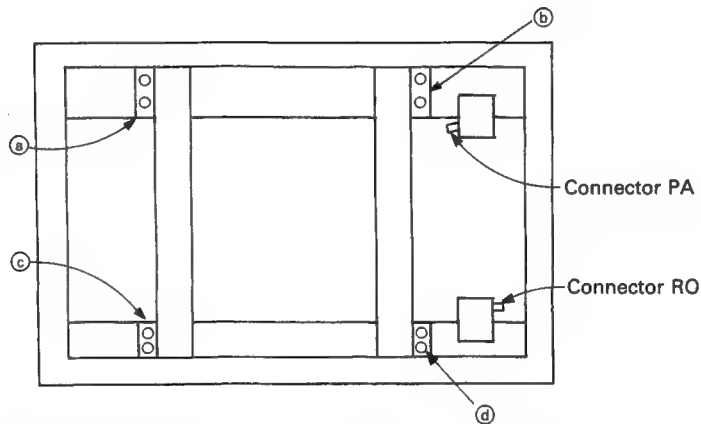
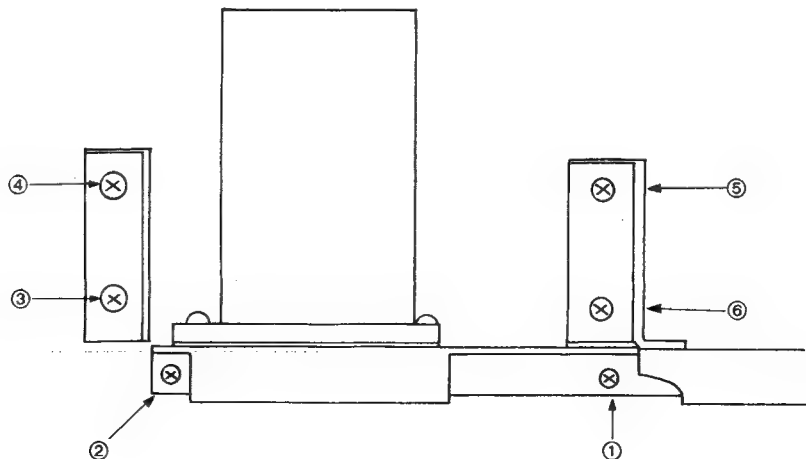

Figure 33 Rotational Mechanism Unit with Rear Cover Removed
Figure 34 Rear View of Rotational Mechanism Unit (at Right Side)
- (4) Disconnect the relay connector which is used to connect the plunger leads coming from the rotational mechanism units (right and left) to the main PWB, and then the connectors RE and FF which are used to connect the motor leads to the main PWB. And remove the leads from the lead holders and leave them near the right and/or rotational mechanism unit.
- (5) Remove eight screws, two each at the places ①, ②, ③ and ④, shown in Fig. 33.
- (6) Remove the screws which have temporarily fixed the writing sheet board, and detach the writing sheet board from the main body. At the time, be careful not to allow the leads of the rotational mechanism unit to be entwined between the main body and writing sheet board.
- (7) Remove the screws ①, ②, ③, ④, ⑤ and ⑥ shown in Fig. 34 from the rotational mechanism unit (at right side), and detach the rotational mechanism unit from the writing sheet board. The same procedures apply to removal of the left rotational mechanism unit.
- (1) Referring to the assembly drawing of the rotational mechanism unit shown in Fig. 34, align the screw holes of the rotational mechanism unit with those of the writing sheet board. Then temporarily fix the screw ①; this screw is used as a datum screw to decide the accuracy of the rotational mechanism unit.
- (2) Also referring to Fig. 34, temporarily fix the screw ② which is used to decide the accuracy in the vertical direction and secure the screw ① completely. Then secure the screw ② firmly and fix the screws ③, ④, ⑤ and ⑥ in this order.
- (3) The same procedures apply to reassembly of the left rotational mechanism unit.
- (4) Attach the writing sheet board, with the rotational mechanism unit secured on it, to the main body and temporarily fix the two screws at the center of the board, one each at the upper and lower parts. (At the time, be careful not to allow the leads of the rotational mechanism unit to be entwined between the rotational mechanism board and main body.)
- (5) Referring to Fig. 33 secure the screws at the places ①, ②, ③ and ④.
- (6) Connect the plunger lead (coming from the rotational mechanism unit) to the relay connector and the leads (coming from the motor) to the connectors RE and FF at the main PWB. Arrange the leads using the lead holders.
- (7) Remove the two screws which have temporarily fixed the writing sheet board and attach the writing sheet to the board according to the instruction in "Attachment of Writing Sheet".
- (8) Attach the rear cover, printer, paper guide and paper tray in this order to the main body. Thus, replacement of the rotational mechanism unit is completed.